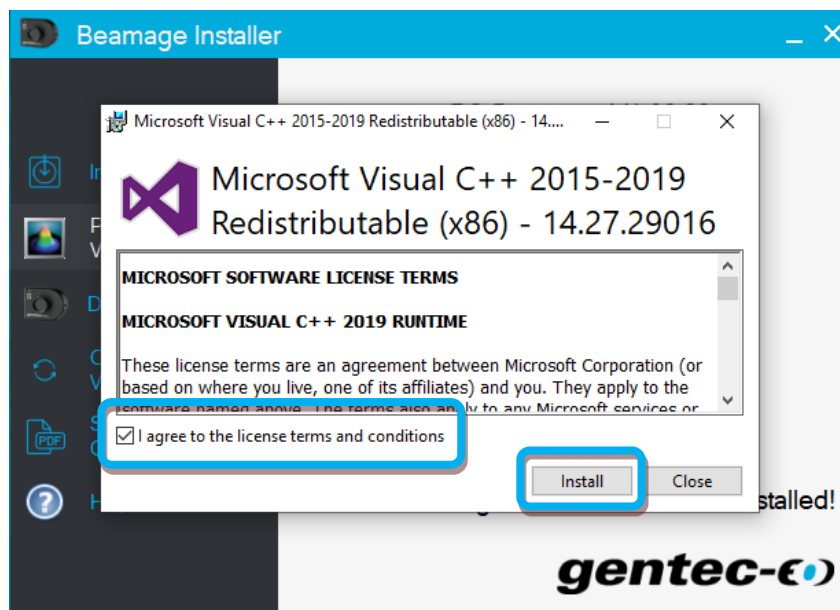

Figure 9-4 Microsoft Visual C++ Redistributable 2015-2019 (x86)
- 4) Follow the suggested steps for the dll file installer, see Figure 9-4